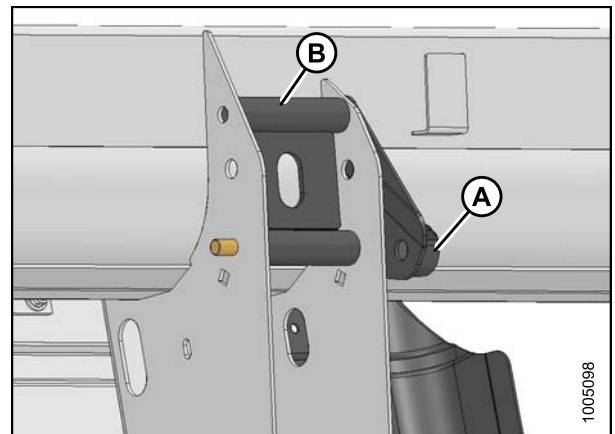

Figure 3.10: Upper Bracket – LH
5. Install the left-hand upper bracket (A) and spacer (B) onto the inboard side of left-hand center leg as shown in Figure 3.10: Upper Bracket – LH, page 33.